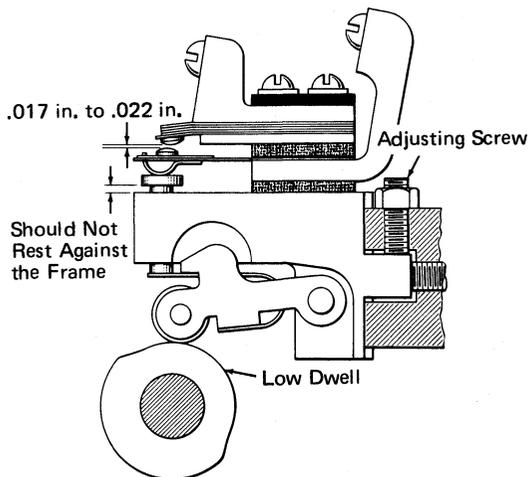

Figure 3-22. Plunger Circuit Breaker, Roller Type—Adjustment 4
4. With the circuit breaker assembly attached to the mounting bar by the holding screw (Figure 3-22), turn in on the adjustment screw to obtain a contact air gap of .017-inch to .022-inch when in the low dwell of the cam.